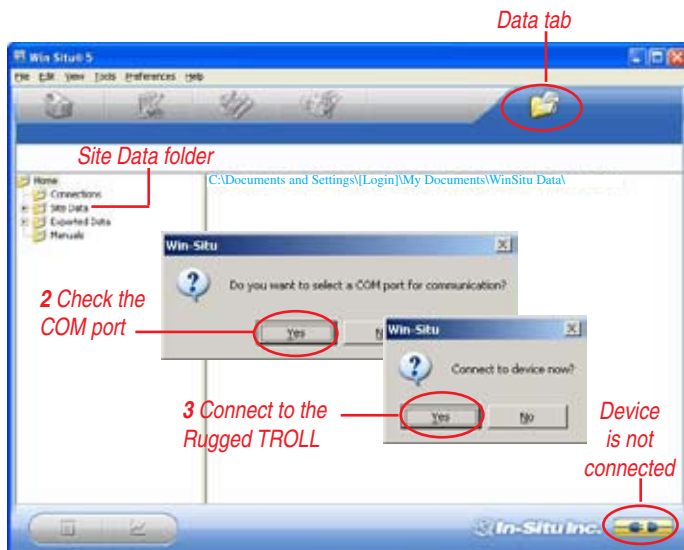

Fig. 1. Win-Situ Data tab on first connection
- Start Win-Situ by double-clicking the desktop shortcut . Win-Situ launches at the Data tab, shown in Fig. 1.
- On the Data tab, click the Site Data folder (Fig. 1).